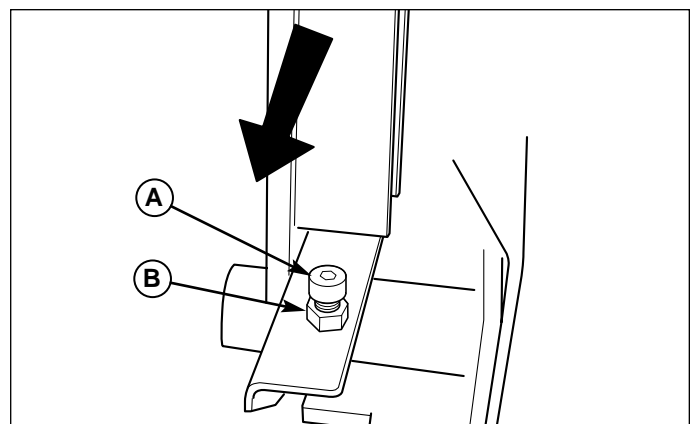

Figure 26. Top Speed Adjustment
1. Loosen the jam nut (B, Figure 26).
2. Turn the top speed adjustment screw (A, Figure 26) CLOCKWISE to reduce the speed.